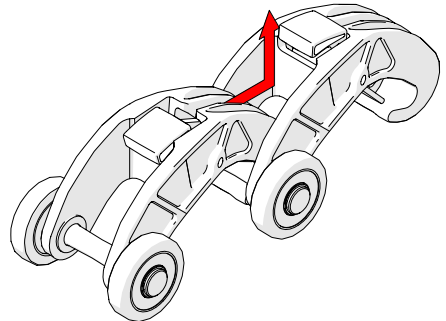

Fig. 58 - Slide QuickLink forward and lift
2. While pressing the button, slide the QuickLink forward and up, clearing the hook of the QuickLink from the 2nd QuickLink's axle (Fig. 58).